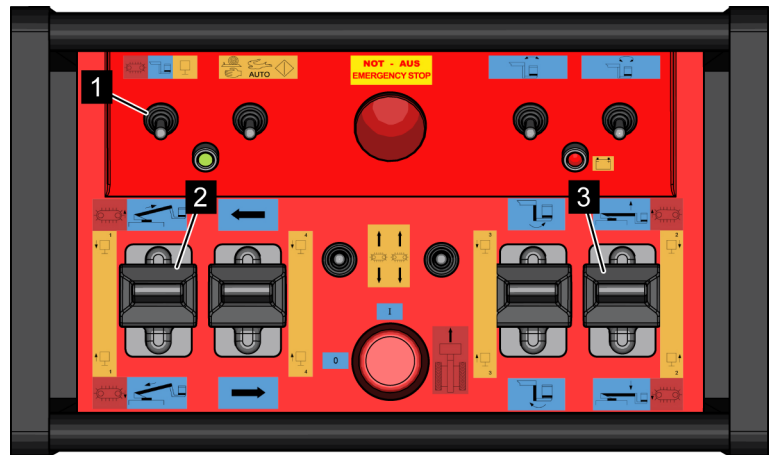

Fig. 54: Radio control
3. ➤ Switch the toggle switch (Fig. 54/1) to the left to [Chain function].
4. ➤ Move the machine with the control levers (Fig. 54/2 and 3) according to ☞ 'Table "Moving the machine"' on page 88.
By pressing the control levers (Fig. 54/2 and 3) slowly, the speed can be adapted.